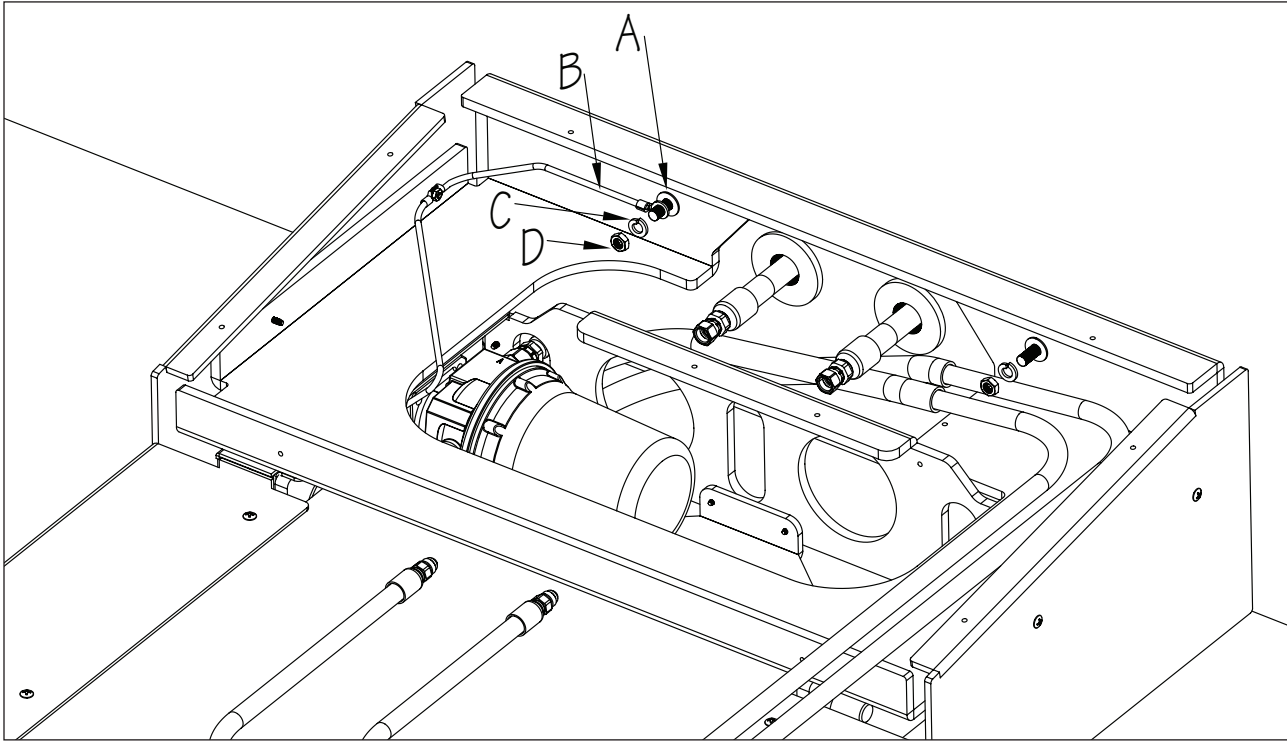

Fig. 13
- 2a. Install a Flat Washer (A) onto each Threaded Rod. On the left rod, install the Bonding Wire (B). **IT IS CRITICAL THAT THE BONDING WIRE IS INSTALLED.** Secure Fastlane® Tread using Lock Washers (C) and Jam Nuts (D) (Fig. 13).
- a. Using an alligator clip, attach one end of the test wire to an exposed bonding wire at the equipment pad. Unroll the amount of necessary wire to reach the bonding connection in the Fastlane® Tread. This connection is located on the left threaded rod/threaded stud used to mount the Fastlane Tread to the pool wall under the End Cover (Refer to Figures 13 and 14).